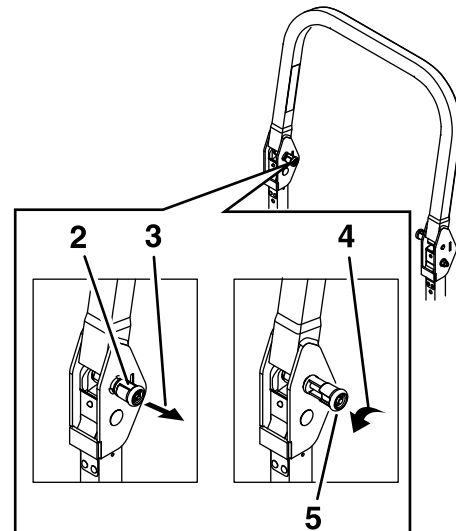

Figure 4
1. Pull the knob and rotate 90° to the unlatched position (Figure 4).
2. Raise the roll bar to the operate position, and rotate the knobs so that they move partially into the grooves (Figure 4).
3. Raise the roll bar to the full upright position while pushing on the upper roll bar and the pins snap into position when the holes align with the pins (Figure 4).